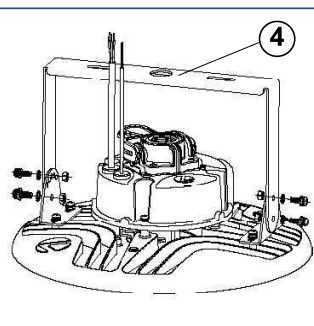

Figure 4
2.4 Once Surface Mount Bracket (4) is installed, align Mounting Bases (2) with Mounting bracket (4) and attach to bracket with provided Hex bolts and lock washers. (See Figure 4).